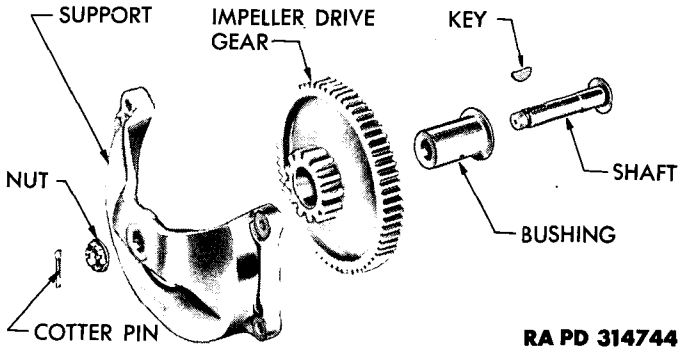

Figure 163 – Impeller Drive Gear – Disassembled
g. **Impeller Drive Gear Assembly** (fig. 163). Inspect drive gear support for cracks and for general condition. Inspect shaft for scores,
e. Install Impeller Drive Gear (fig. 163). Lubricate all parts thoroughly before assembling. Place bearing in impeller drive gear (flanged side down). Position gear and bearing over shaft opening, with keyway pointed exactly toward impeller shaft (fig. 164). Push shaft up from under side of diffuser section. Line up shaft keyway with bearing keyway. Place key in position in two keyways. Put support over gear and shaft, making sure that shaft and journal are